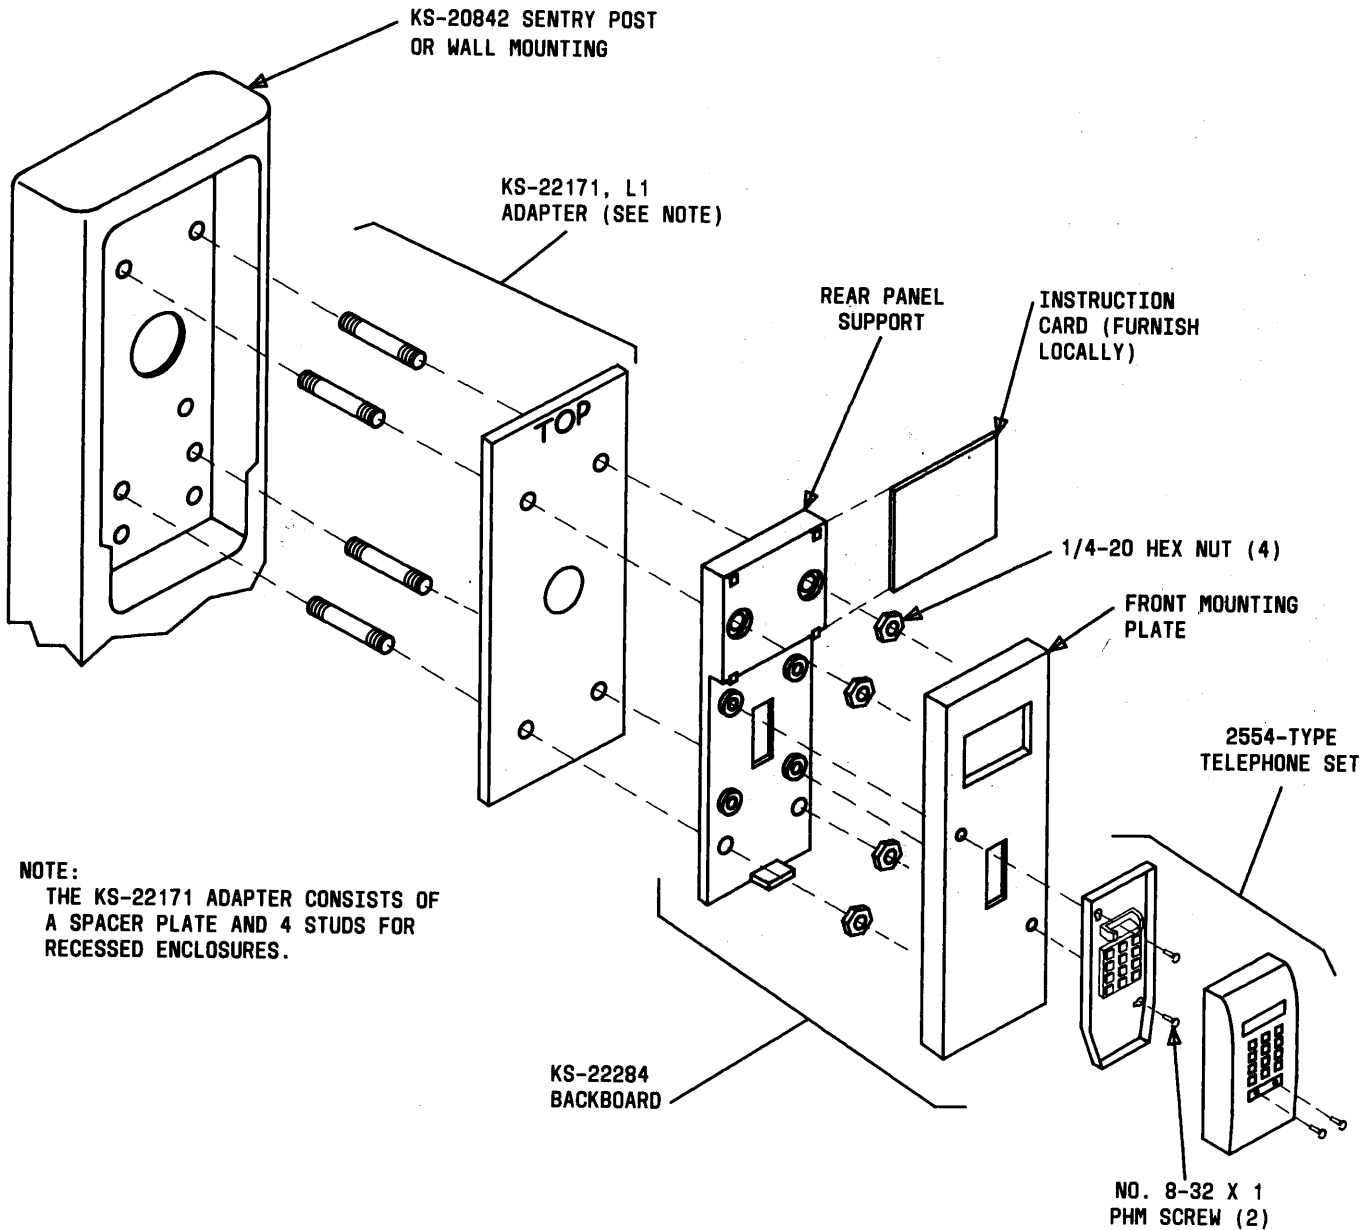

Fig. 10—KS-22288 Backboard and 2554-Type Telephone Set Used With Adapter
2.22 Any closure that will accept a 1-type coin telephone set will accept this backboard, however, when a recessed enclosure is encountered, such as the SENTRY mounting or wedge shelf, a KS-22171, List 1 adapter (Fig. 10) is required.
Note: For a recessed enclosure (SENTRY Mounting and Wedge Shelf) use a KS-22171, List 1 adapter (Fig. 10).
3.17 Place the front mounting panel over the rear panel support and install two No. 8-32 by 1 PHM screws furnished (Fig. 10). Do not tighten the two screws; they are also used to mount the base of the wall set.
D. 2554B-03 (MD), Modified 2554B-03 (MD), or Modified 2554BMP-03 Telephone Set